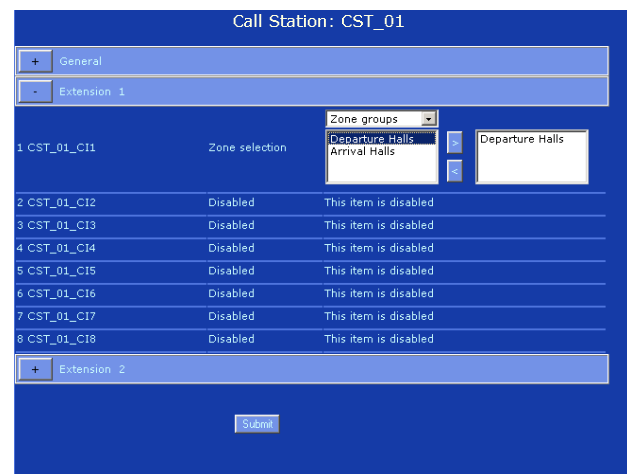

figure 38.8: Zone selection, step 4
- 4 Select the zone (group) or control output that must be selected by the key from the left box and click the *>* button to add the zone (group) to the key. See figure 38.8 for an example.